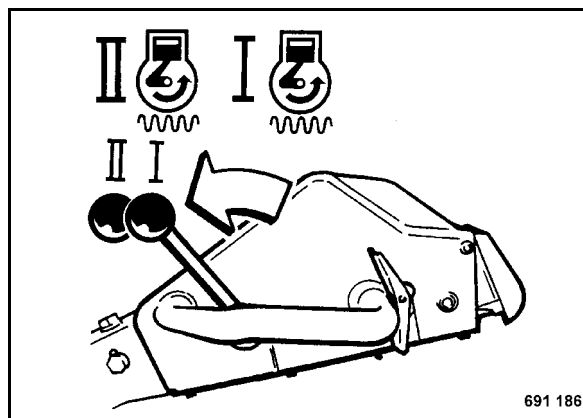

Fig. 33
- Set the throttle lever (Fig. 33) to one of the two possible vibration positions.